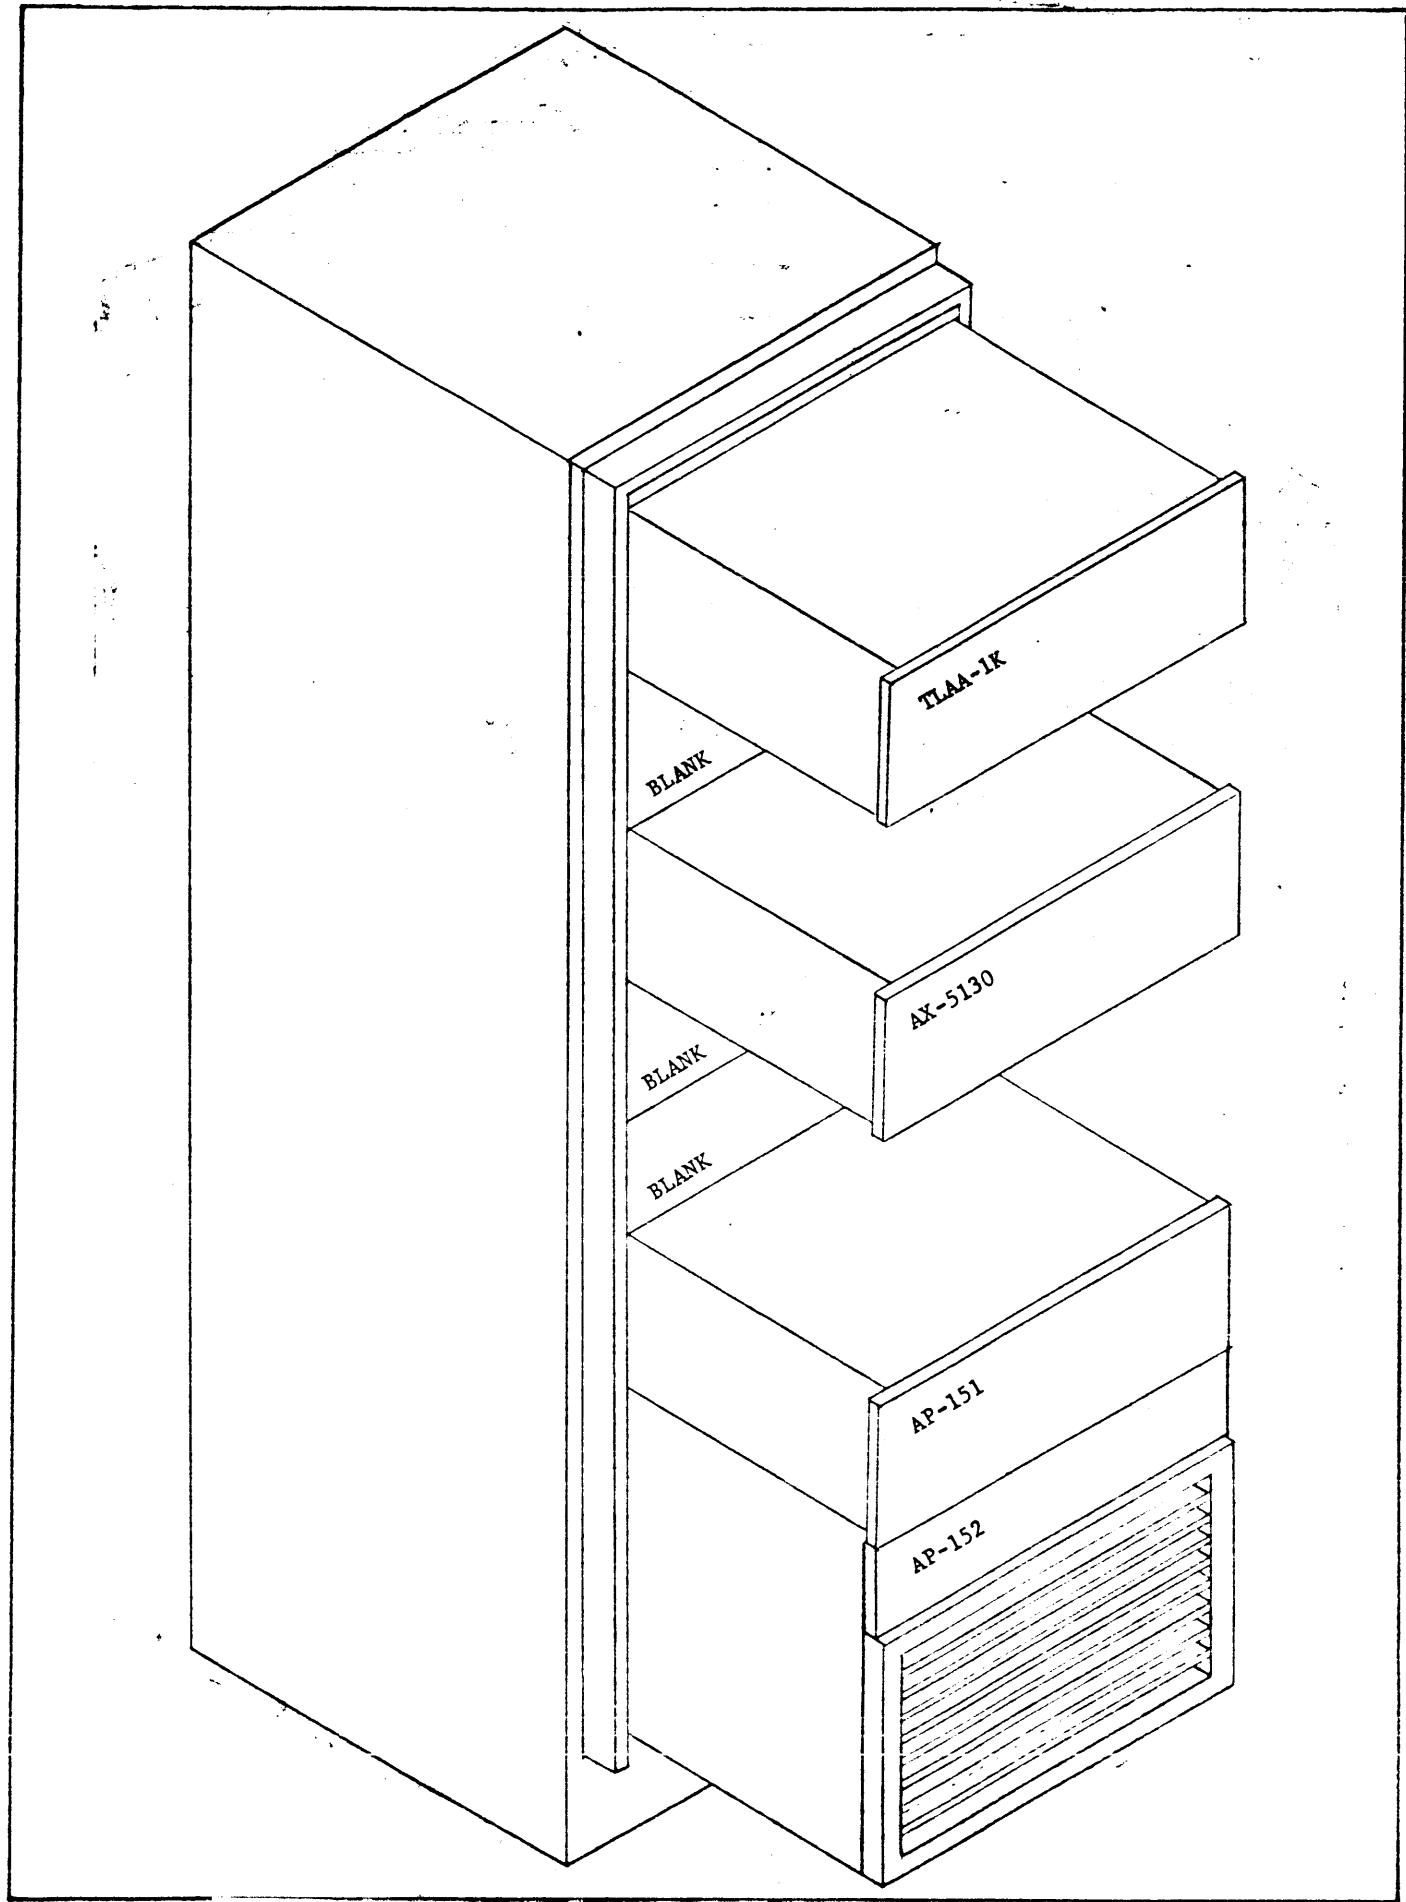

Figure 2-2. Typical HFLA-1K Installation
a. All units in the HFLA-1K are slide-mounted; refer to figure 2-2 for information regarding cabinet location of modular units.